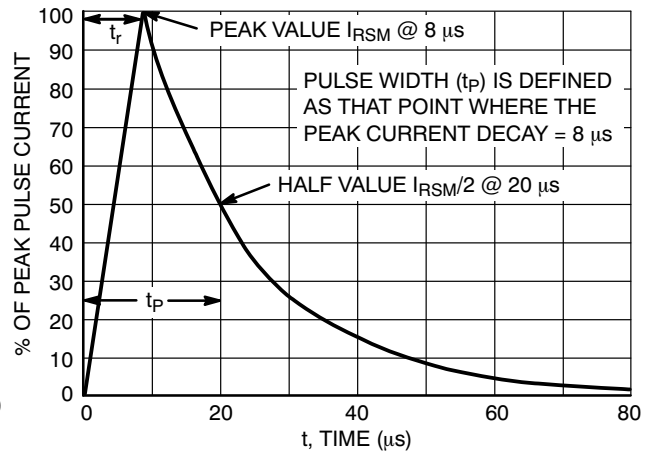

Figure 4. $8 \times 20 \mu\text{s}$ Pulse Waveform
1. Nonrepetitive current per Figure 4.